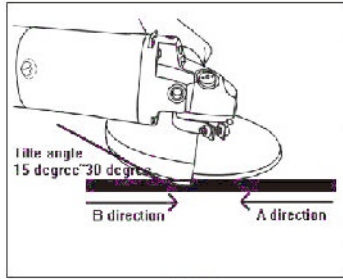

Fig7
2. Generally speaking, please keep the grinding and cutting part of the wheel and disc in the scope of 15 to 30 degree with the surface of processing object. (Fig 7)